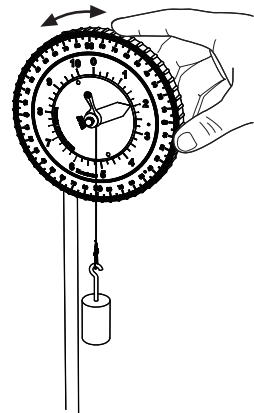

Figure 1.4: Zero the angle scale
3. Zero the angle scale of each Tension Protractor: Hang a small mass (10 g) from the hook. Rotate the outer ring to align the 90° mark with the string (Figure 1.4).